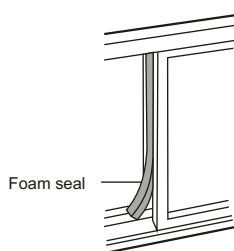

Fig.17
5. Cut the foam seal to an appropriate length and sealing the open gap between the top window sash and outer window sash. Shown as in Fig.17.